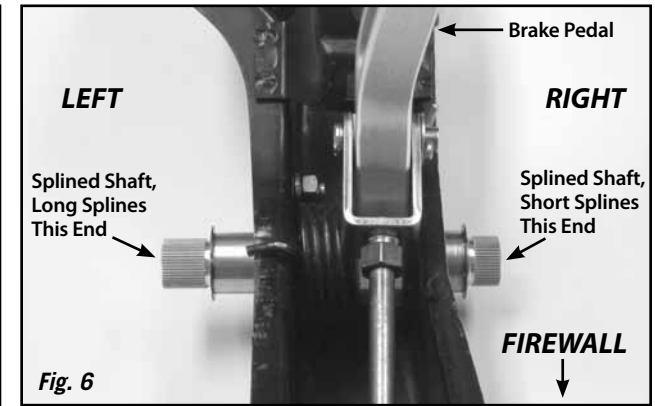

Fig. 6
Step 3: Insert the splined shaft into the clutch pedal axle housing, with the long splines on the left and the short splines on the right. Push it through so that the splined ends are protruding from both sides of the pedal support bracket. **Fig. 6**